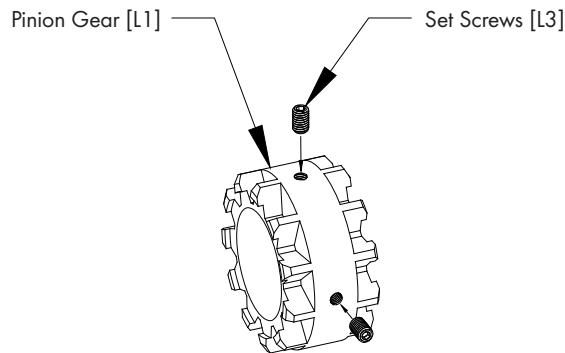
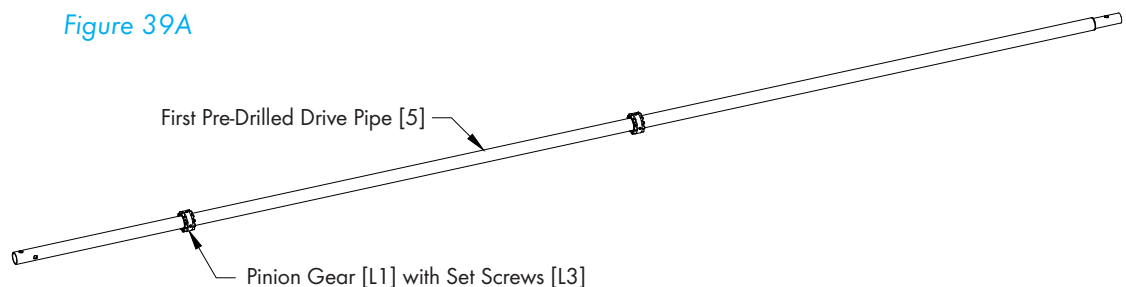

Figure 39A
Figure 39B
Find the Pinion Gear [L1] and install (2) Set Screws [L3]. See Figure 39A. Slide (2) Pinion Gear with Set Screws onto the first pre-drilled Drive Pipe [5]. See Figure 39B. Each Pinion Gear will eventually line-up with each Door Support CHNL Bracket [6].